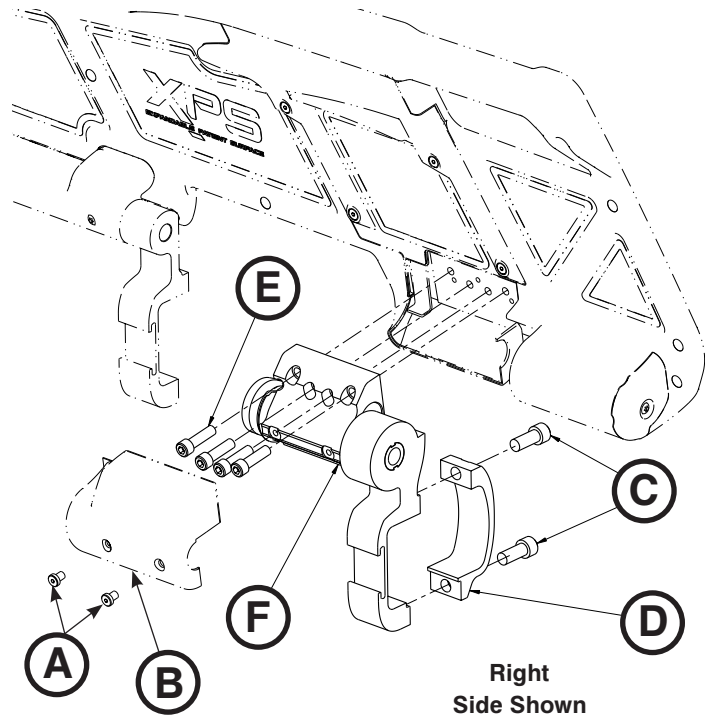

Figure 57
3. Using a 3/32" hex wrench, remove the two screws (A) that secure the ratchet cover (B) to the ratchet assembly. Remove the cover (Figure 57).
4. Using a 1/4" hex wrench, remove the socket head cap screws (C) that secure the siderail clamp (D) to the ratchet assembly at the foot end of the main assembly (Figure 57). During installation, torque both new screws to 22 ± 3.3 ft-lb.
5. Using a 3/16" hex wrench, remove the four screws (E) that secure the ratchet assembly (F) to the overmold assembly and discard, then remove the ratchet assembly (Figure 57). During installation, torque the four new screws to 9.5 ± 1.5 ft-lb.